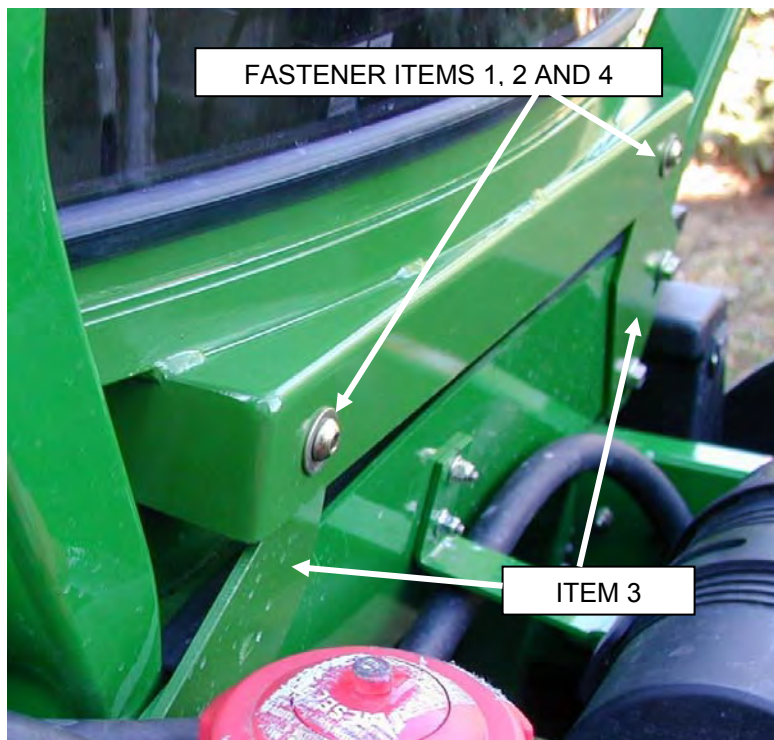

FIGURE 2-9
- 2.9) Secure cab with (2) 3/8" bolts, (4) 3/8" flat washers and (2) 3/8" nylock nuts (Refer to items 1, 2, 3 and 4 on mount kit drawing 4-14563). See figure 2-9.